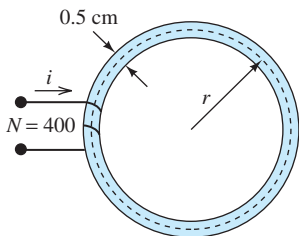

FIGURE P12.18 Magnetic circuit.
12.18 (A) Given $\mu_r = 4000$, $r = 2$ cm, depth = 0.5 cm, and $i = 7$ A, find the mmf, the flux ϕ , the flux density B , and the flux intensity H for the magnetic circuit in Figure P12.18. (Assume that the ring has a square cross-sectional area.)